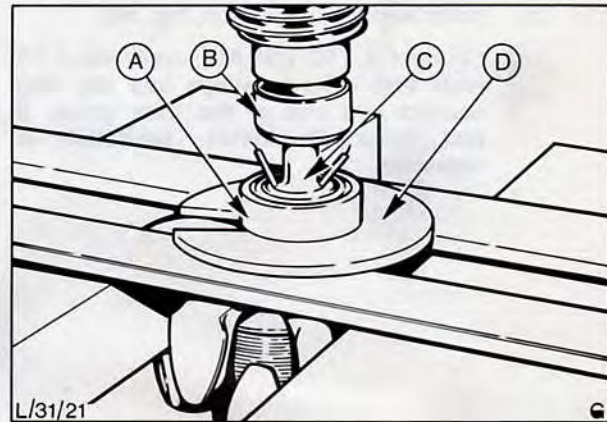

Fig. 47. Removing the slip ring end bearing from the rotor
14. Support slip ring end bearing with a large washer incorporating a cut-out to accommodate the rotor shaft, and press bearing from shaft, Fig. 47.